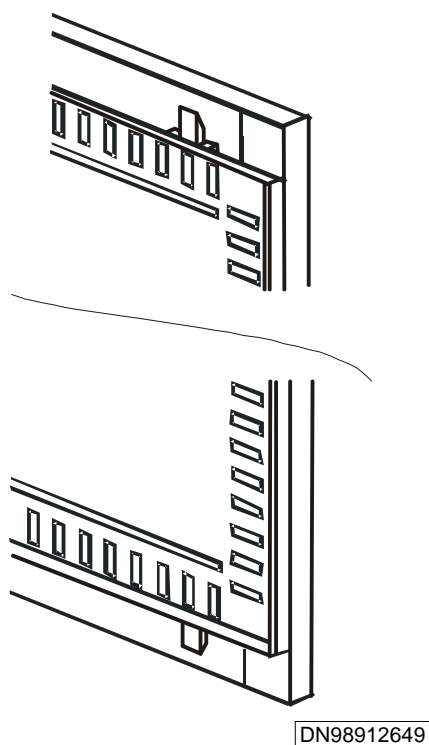

Figure 27 Door lock latch position
13. Fit the lower latch bar to the lock, ensuring that the latch taper is positioned as shown in Figure 27. Tighten the bolt.
14. Thread the upper latch bar through the top edge of the cabinet door. Fit the upper latch bar to the lock, ensuring that the latch taper is positioned as shown in Figure 27. Tighten the bolt.